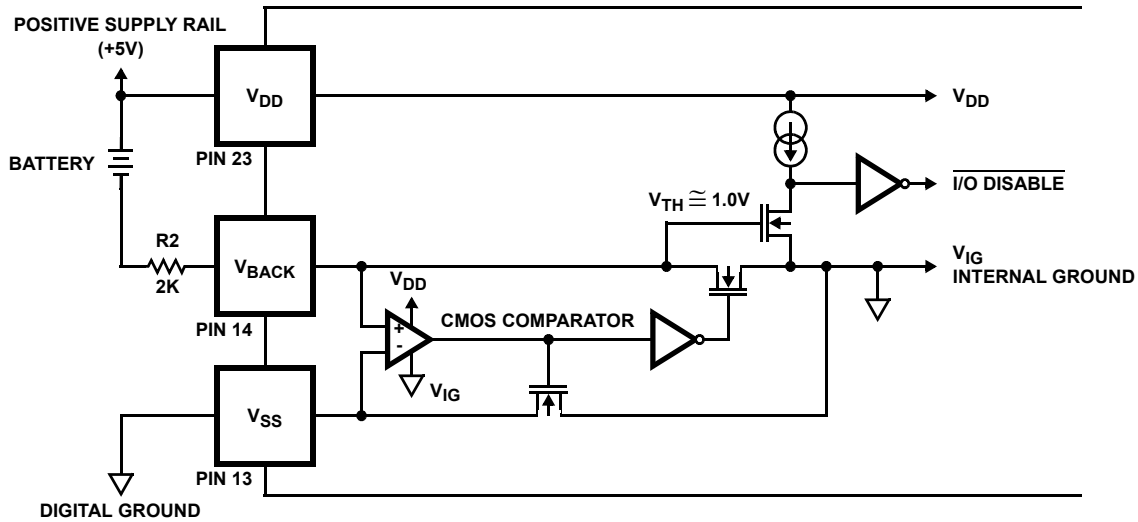

FIGURE 6. SIMPLIFIED ICM7170 BATTERY BACKUP CIRCUIT
The ICM7170 contains an on-chip power down detector that eliminates the need for external components to support the battery-backup switchover function, as shown in Figure 6. Whenever the voltage from the V_{SS} pin to the V_{BACKUP} pin is less than approximately 1.0V (the V_{TH} of the N-channel MOSFET), the data bus I/O buffers in the ICM7170 are automatically disabled and the chip cannot be read or written to. This prevents random data from the microprocessor being written to the clock registers as the power supply is going down.
The new load configuration (Figure 6) allows these two conditions to be met independently. The two load capacitors, C1 and C2, provide a fixed load to the oscillator and crystal. C3 adjusts the frequency that the circuit resonates at by reducing the effective value of the crystal's motional capacitance, C0. This minute adjustment does not appreciably change the load of the overall system, therefore, stability is no longer affected by tuning. Typical values for these capacitors are shown in Table 5. C1 and C2 must always be greater than twice the crystal's recommended load capacitance in order for C3 to be able to trim the frequency. Some experimentation may be necessary to determine the ideal values of C1 and C2 for a particular crystal.
4. **EXTERNAL BATTERY BACKUP** - The ICM7170 may be placed on the same power supply as battery-backed up RAM by keeping the ICM7170 in its operational state and having an external circuit switch between system and backup power for the ICM7170 and the RAM. In this case V_{BACKUP} should be pulled up to V_{DD} through a 2K resistor. Although the ICM7170 is always "on" in this configuration, its current consumption will typically be less than a microamp greater than that of standby operation at the same supply voltage (See Note 9). Proper consideration must be given to disabling the ICM7170s and the RAMs I/O before system power is removed. This is important because many microprocessors can generate spurious write signals when their supply falls below their specified operating voltage limits. NANDing \overline{CS} (or \overline{WR}) with a POWERGOOD signal will create a \overline{CS} (or \overline{WR}) that is only valid when system power is within specifications. The POWERGOOD signal should be generated by an accurate supply monitor such as the ICL7665 under/over voltage detector. An alternate method of disabling the ICM7170's I/O is to pull V_{BACKUP} down to under a volt above V_{SS} ($V_{SS} < V_{BACKUP} < 1.0V$). This will cause the ICM7170 to internally disable all I/O. Do not allow V_{BACKUP} to equal V_{SS} , since this could cause oscillation of the battery backup comparator (See Figure 6). $V_{BACKUP} = V_{SS} + 0.5V$ will disable the I/O and provide enough overdrive for the comparator.